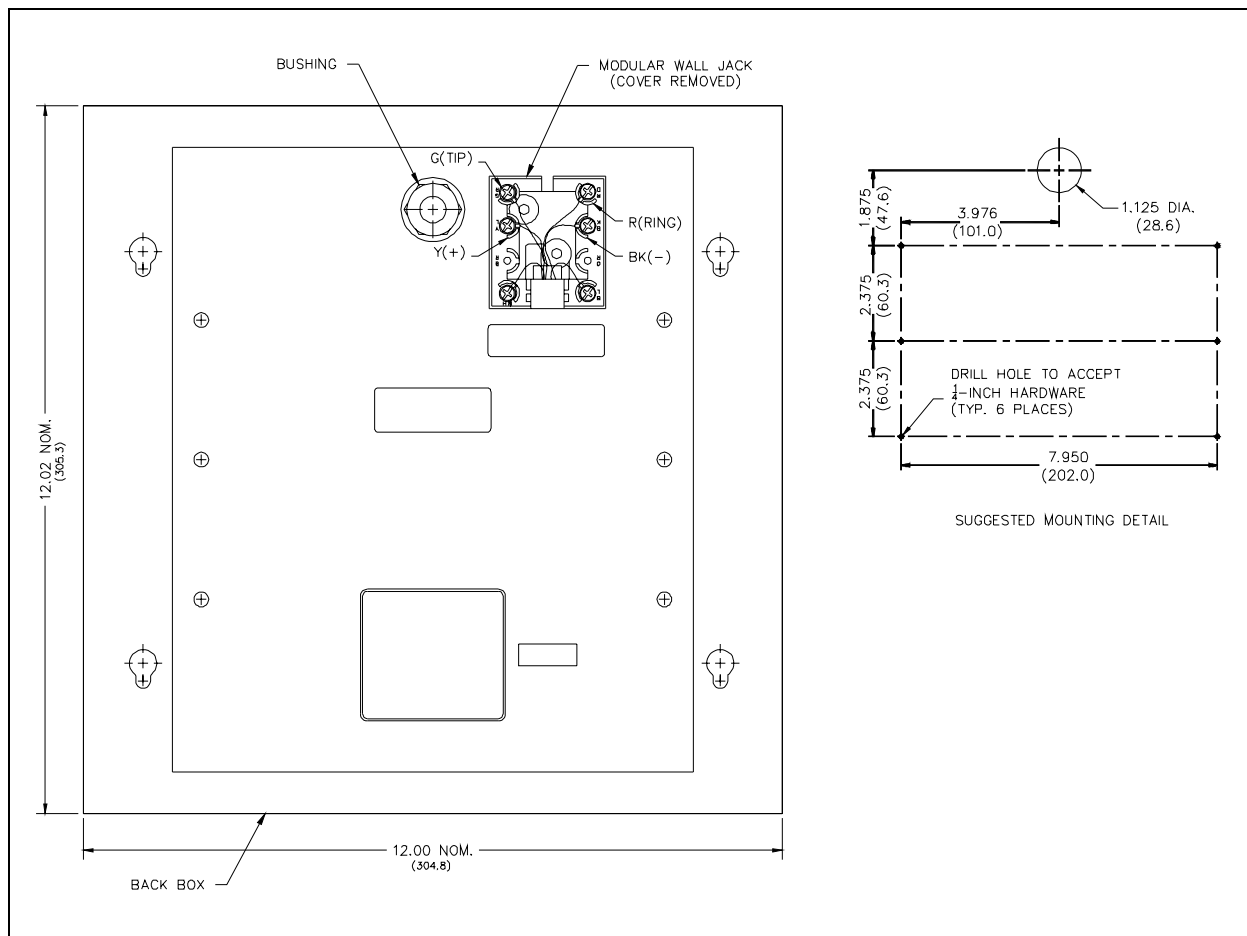

Figure 3. Mounting the Model 295W
4. Snap the cover off the modular wall jack. Refer to Figure 3. Wire the incoming tip wire to the green wire in the modular jack, the incoming ring wire to the red wire in the modular jack, the (COM) wire to the yellow wire, and the (-48 V) wire to the black wire. **DO NOT REMOVE** the blue and white wires. Replace the modular wall jack cover.